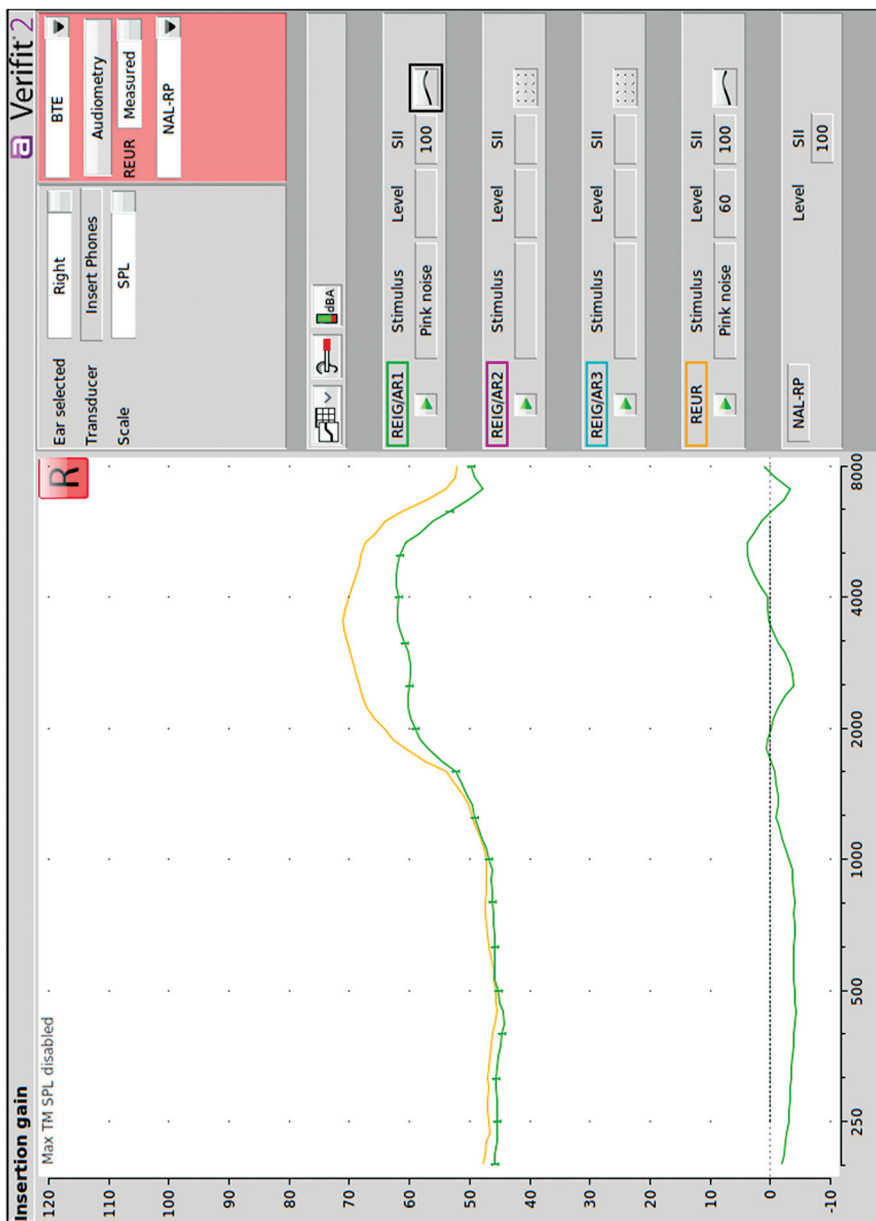

Figure 10 Real-ear occluded response (REOR) with non-custom, non-musician’s earplug.
6. Click the **green arrow** directly below REIG/AR1. Select the same stimulus used in Step 3 and press the **red circle** to record the curve (Figure 10).
7. Earplugs which are not designated as musician's earplugs will not attenuate all frequencies equally and, although the response should indicate a lower intensity level, the shape of the frequency response is not expected to match the REUR curve (i.e., some frequencies will be attenuated more than others) (Figure 10). If measuring the response from musician's earplugs, the REOR curve is expected to be the same shape as the REUR curve, but it should appear lower on